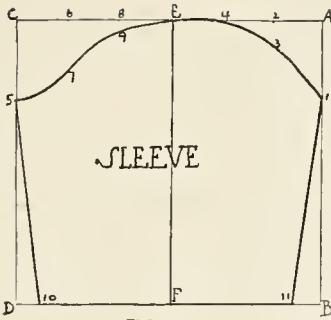
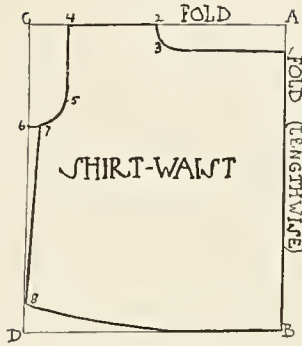
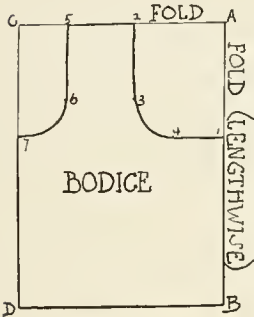

FIG. 2
FIG. 1
FIG. 3
**SAFETY POCKETS FOR TRAVELERS.** The first of leather, the second of linen. Cut a strip of kid 14" long and 6" wide. Round the corners. Line with silk, turning edges in. Stitch around lid A. Cut two pockets, B,  $2\frac{1}{2}$ " square, rounding lower corners, and stitch as shown. Cut pocket lids, C,  $1\frac{1}{2}$ " deep and 2" wide. Turn lid A on dotted line. Stitch on *ab*, including lids C. Cut strip of green taffeta silk (2). Baste on strip of kid *ghij*. Cut a strip of kid 7"  $\times$  6". Line part corresponding to *ghkl* with silk and stitch edges. Adjust this to silk (2), upper edges corresponding. Stitch on *gh*. Cut silk strip 7"  $\times$  6" (3). Apply kid strip 6"  $\times$  2" to upper part, cut as at *mn*, stitch, and place 3 upon 2, lower ends corresponding. Stitch sides and base, making inside pocket. Cut strip of kid 6"  $\times$  6". Line with silk, turn in edges. Stitch across top. Apply to 3, lower edges corresponding. Stitch 1, 2, 3, together. When completed, there is the long pocket, length of Fig. 2; middle pocket, length of Fig. 3, its lid buttoning on narrow kid on *gh*; and outside pocket, with *ghlk* for a lid. Buttons should be brown, and fasteners are ball and socket, glove style, or dress style sewed on. For pocket No. 2 cut a strip of butcher's linen 8" long and 5" wide. Cut off the corners of the lid as shown in the diagram, Fig. 4; turn in the edges on all sides; line with thin linen or Persian lawn; stitch; fold to make a pocket  $2\frac{1}{2}$ " deep. Ornament the lid with large dots heavily padded. In the center cut out the cloth and fill in with lace stitches for the medallion. Fasten
COSTUMES FOR FOLK DANCES or for a doll. Point 1 is  $\frac{1}{2}$ " from A. Point 2,  $2\frac{1}{2}$ " from A. Point 3,  $\frac{1}{2}$ " from 2. Draw curve from 1 through 3 to 2. Point 4 is  $1\frac{3}{4}$ " from 2. Point 5 is  $1\frac{1}{2}$ " from 4. Point 6 is 2" from C. Draw curve from 4, through 5 to 6. Point 7 is  $\frac{1}{4}$ " from 6. Point 8 is  $3\frac{1}{2}$ " from 6. Draw curve from 8 to B. Open pattern and cut one fold from 1 to B, for opening at back. Cut material folded same as pattern. Hem back edges. Gather neck from point 3 on each side to center back and front, and bind. French-seam under arm. Hem bottom. Locate waist line in back, and tack center of tape, to tie about waist, to center back. For a pattern for twelve-year-old girl, take paper  $30" \times 36"$ , multiplying all numbers by 3. For Sleeve Pattern: Use paper  $6" \times 5\frac{1}{2}"$ . Place with short edges vertical and letter corners as in chart. Calculate measurements by spacing from Fig. 1. For Bodice, paper must be  $8" \times 12"$ . For Apron,  $9" \times 11"$ , and for apron for child, one width of  $36"$  cloth. For Skirt, cut goods  $11"$  lengthwise and
ENGLISH PEASANT COSTUME for doll or child. Fig. 1, Front of Waist: Paper, 8" X 6". A-B is front edge of surplice front. Points: 1 is 3" from A; 2, 4 1/4" from A; 3, 1 1/2" from 2; 4, 1" from 3; 5, 1/2 distance 3 to 4; 6, 1/4" from 5; 7, 3 1/2" from C. Line A-1, shoulder. Line 3-7, under arm. Curve 1-4-3 front of armhole. In cutting, fold selvages together, place line A-B even with selvege, allowing for hem. Shirr shoulder to fit shoulder of back. Back of Waist, Fig. 2: paper, 3" long, 4" wide. Fold on center, making oblong 3" long and 2" wide. Points: 1 is 1/2" from A; 2, 1 1/2" from A; 3, 3 1/2" from A; 4, 1 1/2" from 3; 5, 2 1/4" from C; 6, 1/2" from